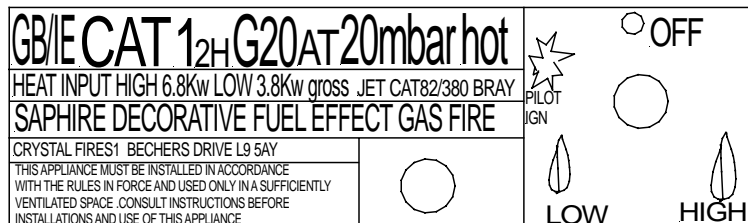

FIG 1
1. TURN KNOB A (FIGURE 1) SLIGHTLY LEFT TOWARDS THE IGNITION POSITION(SHOWN IN FIG 1 ABOVE) UNTIL REACHING STOP,PRESS DOWN AND HOLD FOR FIVE SECONDS
3. UPON LIGHTING,RELEASE KNOB A AND TURN FURTHER LEFT TO ON POSITION (SHOWN IN FIGURE 1 ABOVE)PILOT GAS FLOWS AND MAIN BURNER FLOWS IN ACCORDANCE TO THE FLAME SETTING(KNOB B AS SHOWN IN FIG 1 ABOVE)